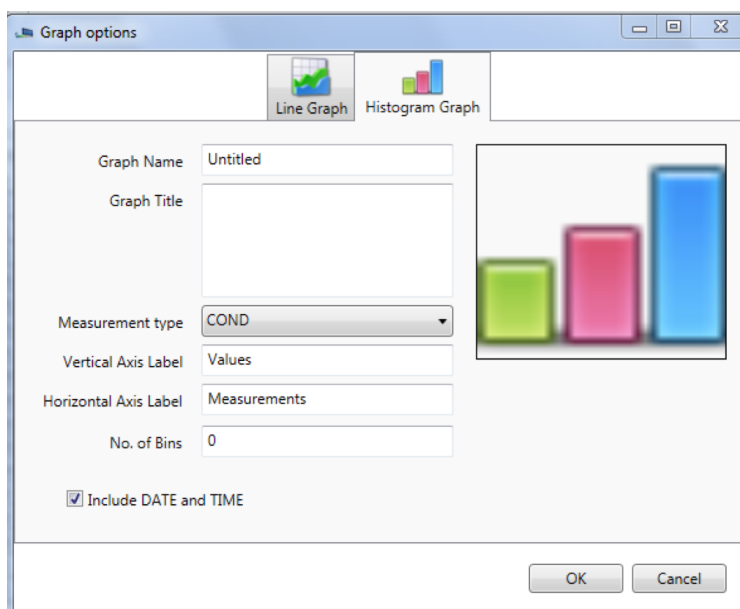

Figure 58
- 2) The following dialogue box will open (Figure 58).